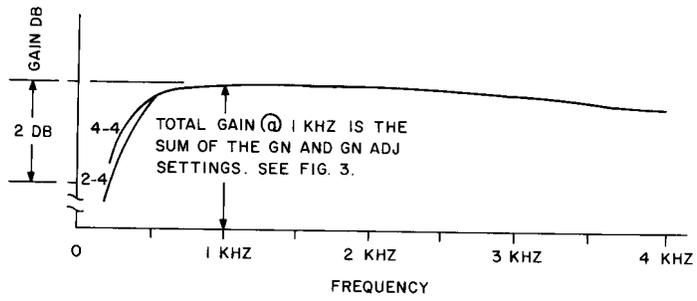

Fig. 12—Gain-Frequency Response of the 309A Amplifier Unit
**6.02** Gain and frequency shaping for equalization is accomplished by active 309-type amplifier units. Repeater gains of -20 dB to +24 dB are available by selecting a combination of the GN and GN ADJ controls. The basic voice frequency response of the repeater is shown in Fig. 12. This response is not significantly affected by gain adjustment.